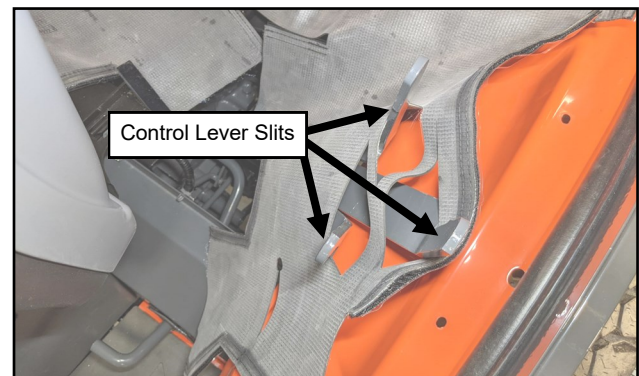

Fig. 19.3 (Set Filler In Place)
- 19.3** Tip the seat forward and set the filler in place starting with the slits for the control levers on the left side. See Figure 19.3. Do not stick Velcro yet.